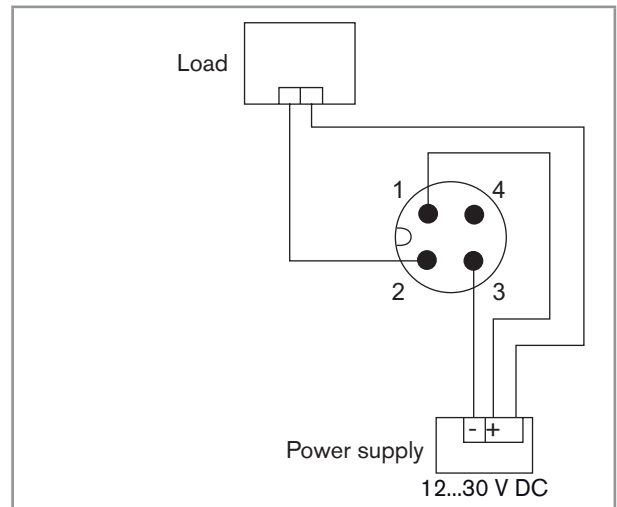
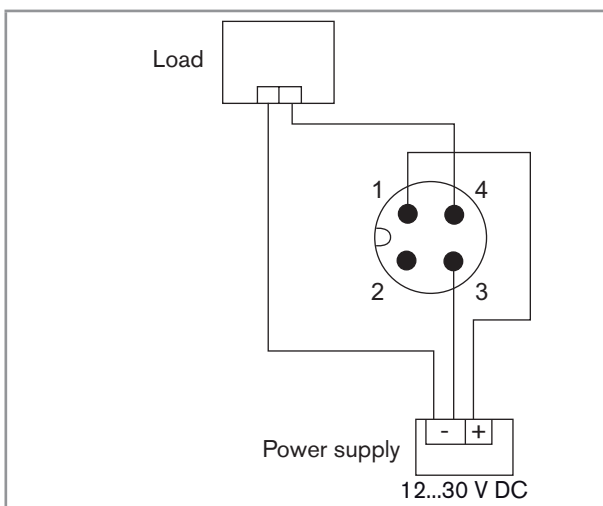

Fig. 7: Device with 4-pin M12 male connector – NPN connection of the transistor output
Fig. 8: Device with 4-pin M12 male connector – PNP connection of the transistor output
- Connect the transistor output. The transistor output can be connected in the following modes: NPN or PNP. Refer to Fig. 7 or Fig. 8.